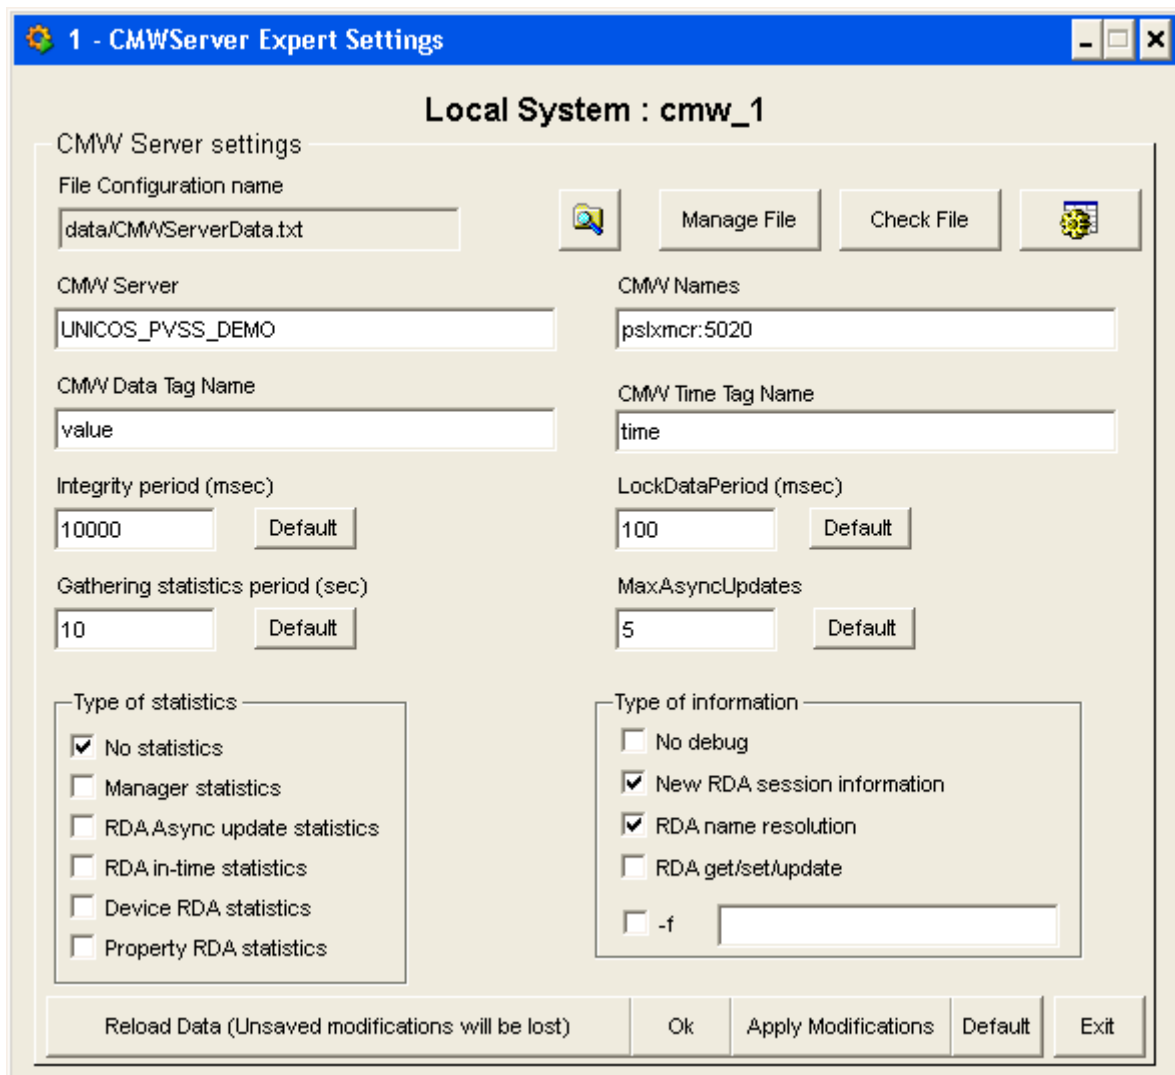

Figure 13: CMW Server expert configuration.
- open the expert setting of the CMW Server (Figure 13), set the CMW Server to 'UNICOS\_PVSS\_DEMO' (this name must be the same as the one in the config file for the CMW Client driver 3), the Integrity period to '30' (the value is in sec not in msec.), the CMW Data Tag Name and CMW Time Tag Name will be the ones used for the configuration of the CMW address config (see below), if another CORBA name server (dns) is used, replace 'pslxmcr:5020' by the CORBA name server and port number